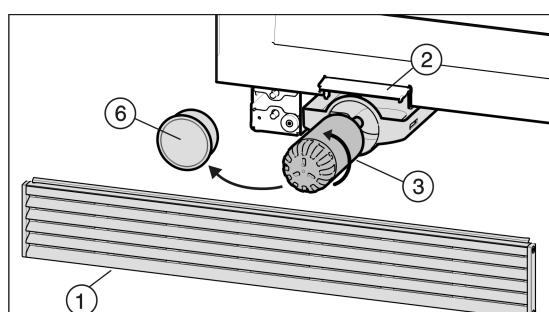

Fig. 8
- lift the ventilation grid Fig. 8 (1) up and pull out.
- Open the filter change flap Fig. 8 (2).
- Pull the water filter carriage Fig. 8 (3) out.
- Remove the filter cover Fig. 8 (6).
- Turn the water filter Fig. 8 (3) about 100° anti-clockwise and pull out.